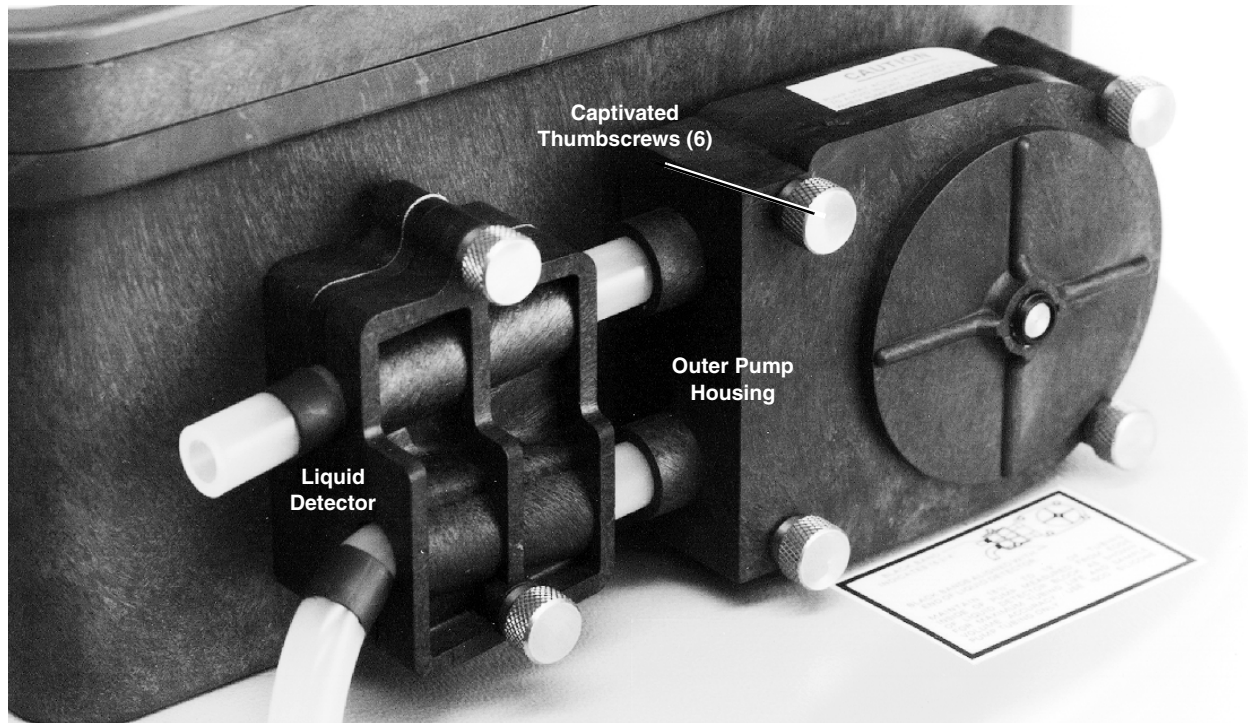
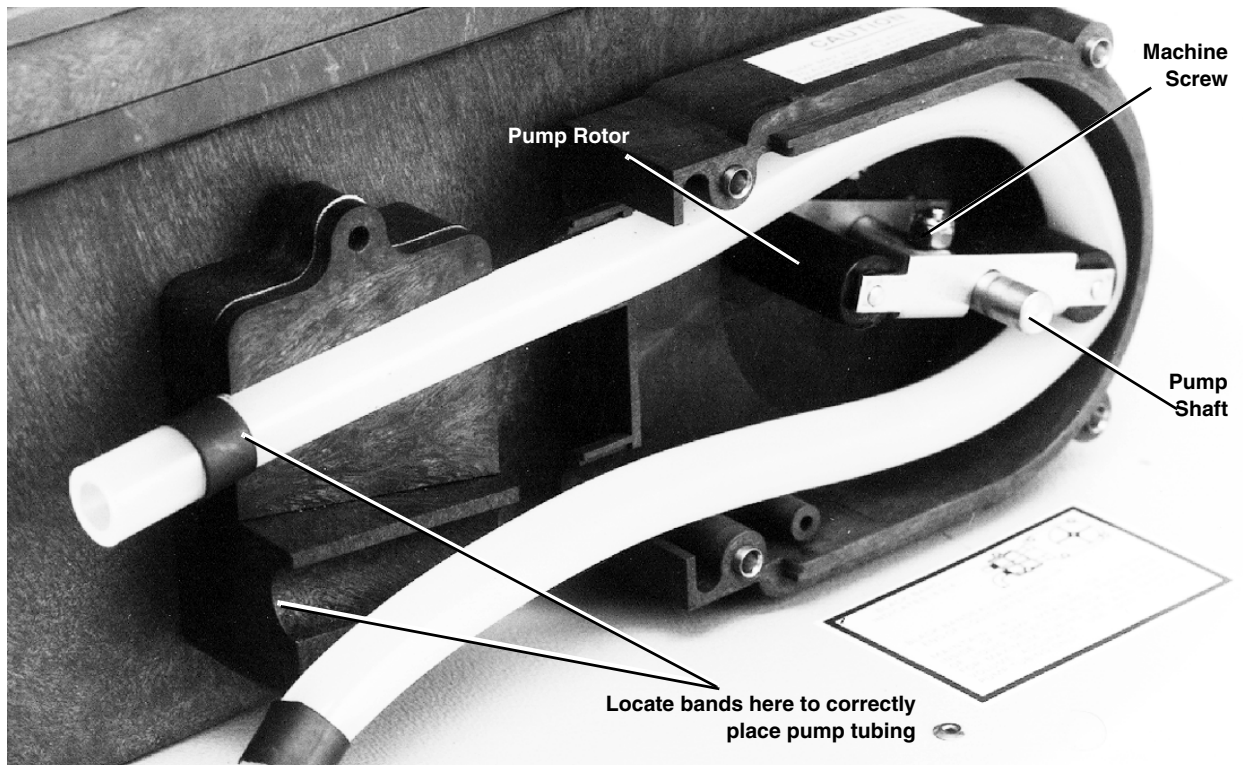

Figure 5-1 Liquid Detector and Pump Housing
Figure 5-2 Pump Tube and Interior of Liquid Detector
2. Detach the outer lids of the liquid detector and pump by loosening the captivated thumbscrews shown in Figure 5-1. This will expose the pump tubing as shown in Figure 5-2.
tor. Figure 5-2 shows the correct placement of the tubing at the liquid detector.